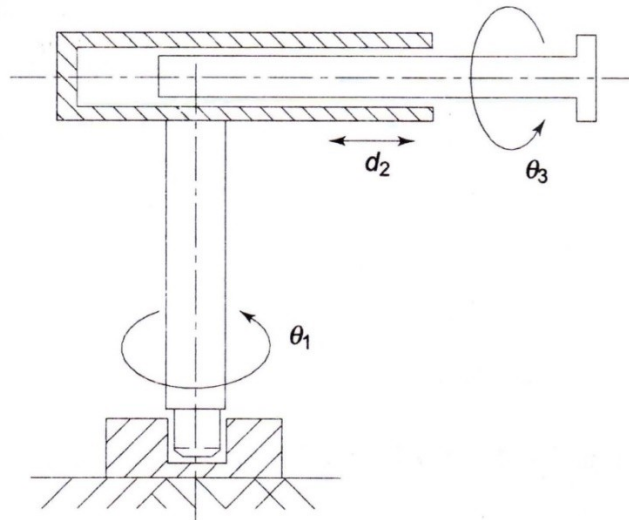

Fig. 1: A 3-DOF manipulator
9. For the 3-DOF manipulator arm as shown in Fig.1, assign frames and obtain the joint-link parameters (dH parameters). Also, determine the position of the tool tip with respect to the base frame $\{0\}$. Take the values of $\theta_1 = 30^\circ$, $\theta_3 = 45^\circ$, and $d_2 = 0.8\text{ m}$.